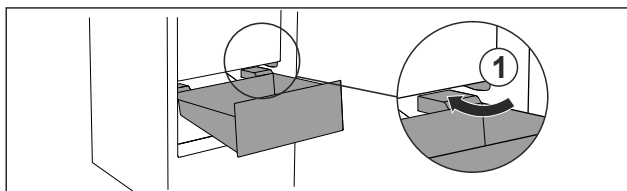

Fig. 94
- Guide drawer in at an angle around the stoppers Fig. 94 (1).